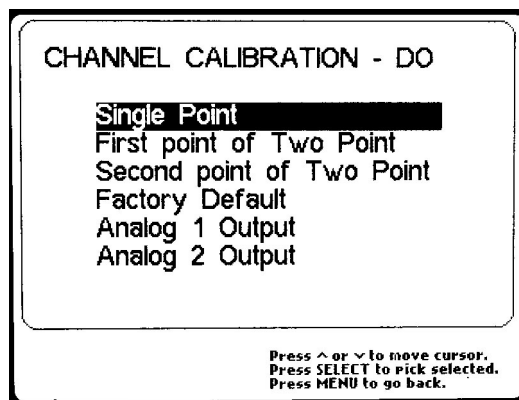

Figure 24 - Channel Calibration (D.O.)
3. On the CHANNEL CAL menu screen (Figure 24), SINGLE POINT Calibration should already be the highlighted option, press SELECT.
- From the CHANNEL CAL menu screen (Figure 24), press the down arrow key until the FACTORY DEFAULT option is highlighted, then press SELECT
- From the CHANNEL CAL menu screen (Figure 24), use the up arrow key to highlight the FIRST POINT OF TWO POINT option, then press SELECT.
9. From the CHANNEL CAL menu screen (Figure 24), use the up and down arrow keys to highlight the SECOND POINT OF TWO POINT option, then press SELECT.